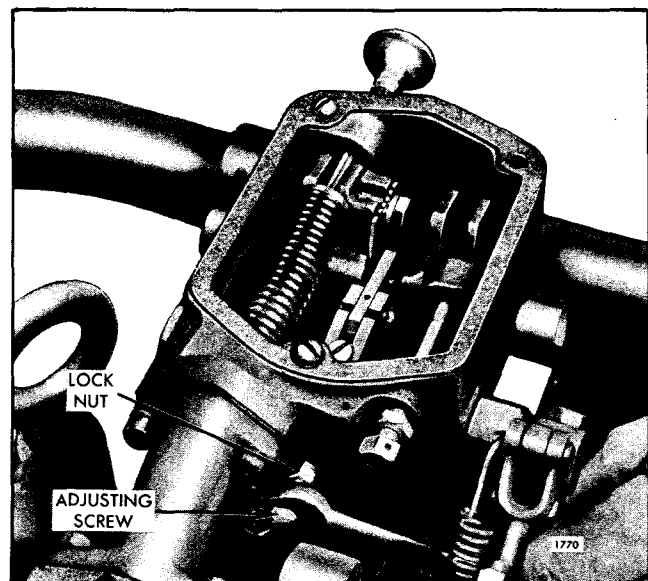

Fig. 5 - Setting Maximum Speed Adjusting Screw
3. Loosen the lock nut (Fig. 5) and back off the maximum speed adjusting screw approximately 3/8".
3. Turn the maximum speed adjusting screw (Fig. 5) in lightly until contact is felt with the linkage in the governor.